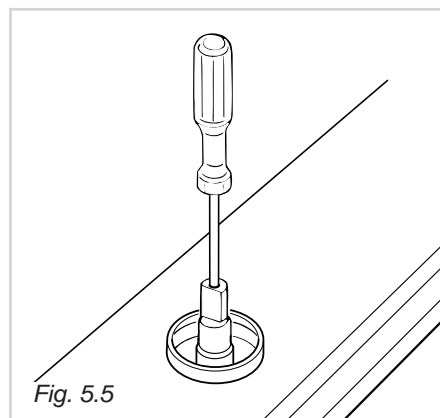

Fig. 5.5
**On gas valves provided with adjustment screw in the centre of the shaft (fig. 5.5):**